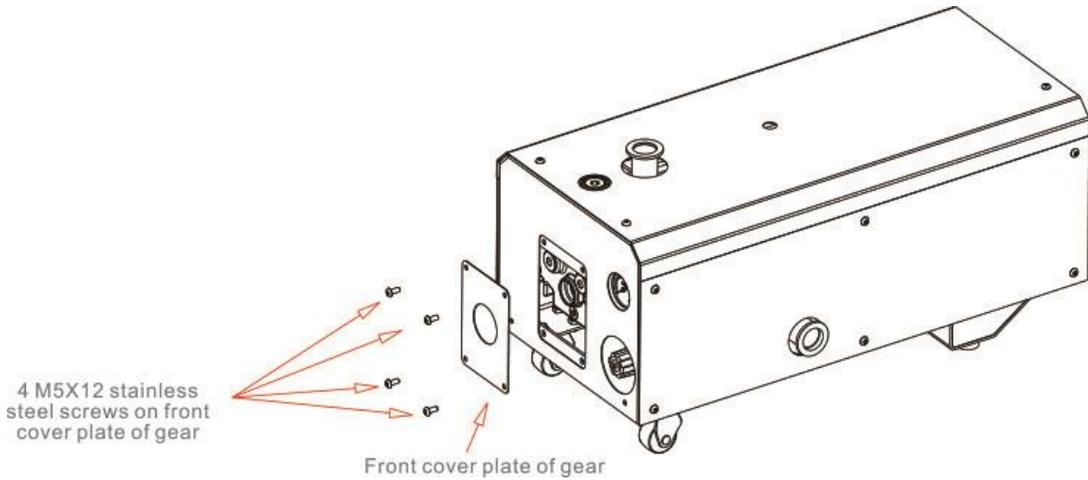
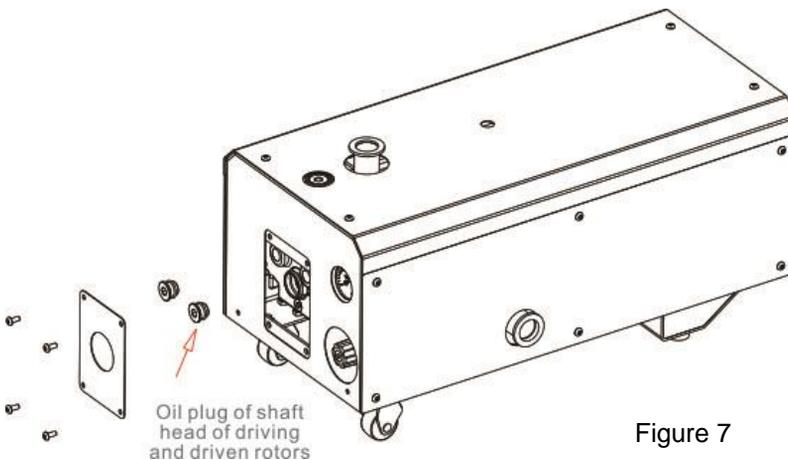
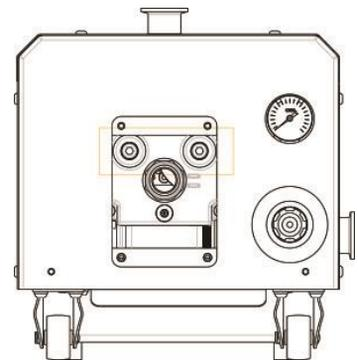

Figure 6
Figure 7
Figure 8
1. Remove 4 M5X 12 stainless steel screws from the front cover plate of the gear, as shown in figure 6
3. Screw off the end face of the front cover of the gear with an 8mm 7-shaped wrench, and align the oil plug of shaft head of the driving and driven rotors, as shown in Figure 7.
4. Use a 5mm 7-shaped wrench to turn the driving rotor counterclockwise to experience the resistance during rotation, as shown in Figure 8.
Check whether the rotor is stuck according to the steps shown in Figure 6, Figure 7 and Figure 8.